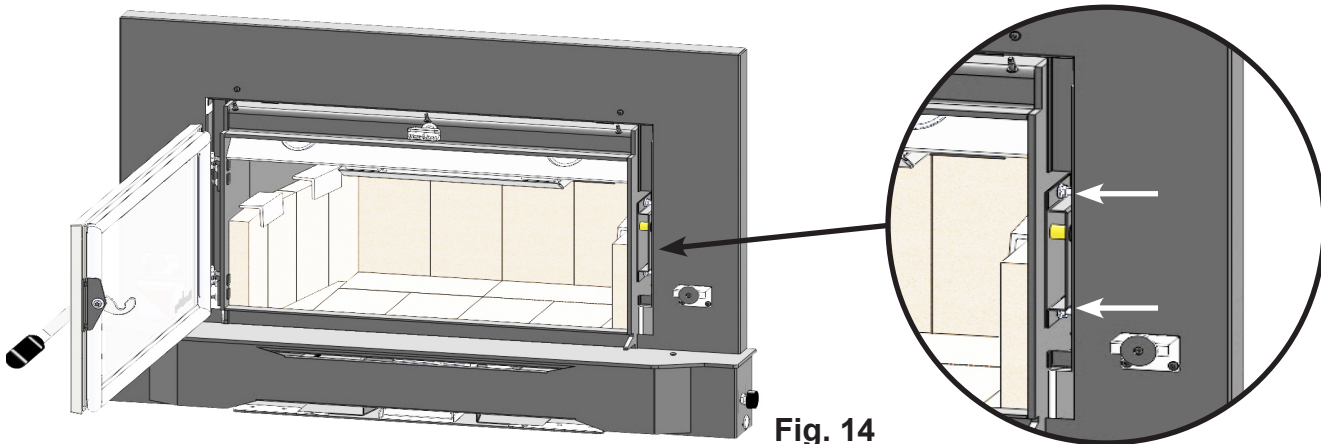

Fig. 14
1. Open the loading door to gain access to the latch catch on the right side of the firebox. (**Fig. 14**)